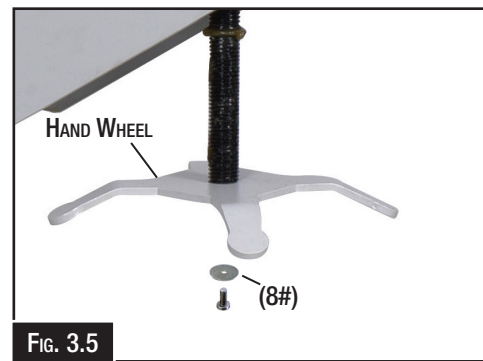

FIG. 3.5
1. Attach the hand wheel (15#) onto the squared end of the lower wheel adjustment screw using the M6 x 12mm screw and round plate. (8#) (Fig. 3.5)